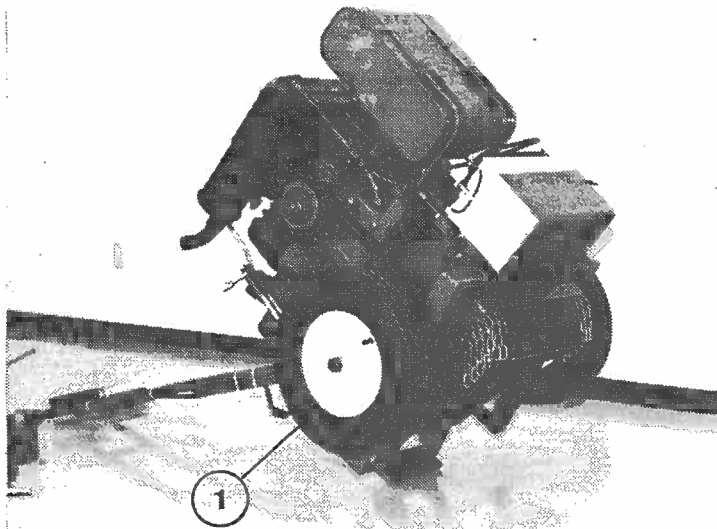

FIGURE 13
3. Tip machine back lowering handle all the way to ground. (See Figure 13.)